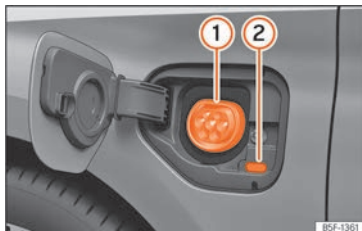

Fig. 215 Behind the battery charging cover on the front left-hand side: Charging socket
» **Fig. 215**
- With the vehicle unlocked, the battery charging cover opens when it is pressed » **Fig. 215.**